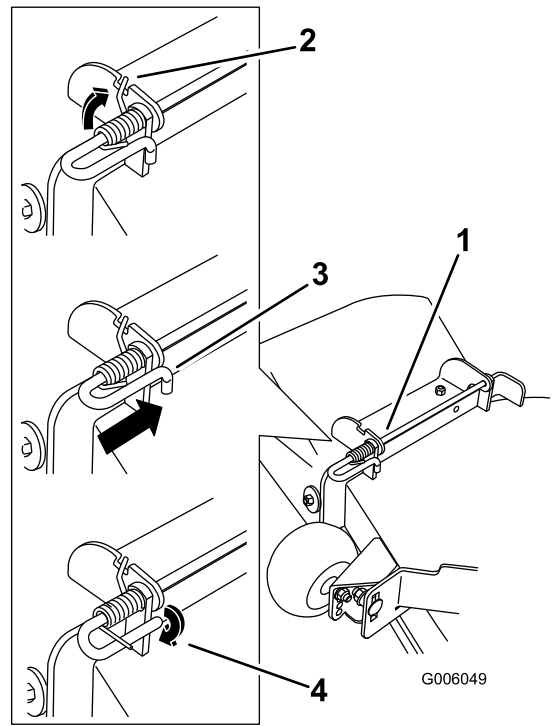

Figure 2
5. Secure the rod and spring assembly by twisting it so the short end of the rod is placed behind the front bracket welded to the deck (Figure 2).
1. Position the rubber deflector with the bracket ends between the welded brackets on the deck as shown in Figure 2.
4. Lift the loop end of the spring and place it into the notch on the deflector bracket (Figure 2).